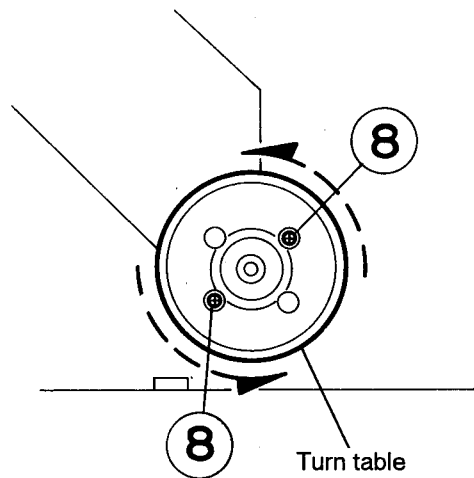

Fig. 2-25
2. While turning the turntable, remove the two screws ⑧ retaining the spindle motor and take out the spindle motor (See Fig. 2-25).